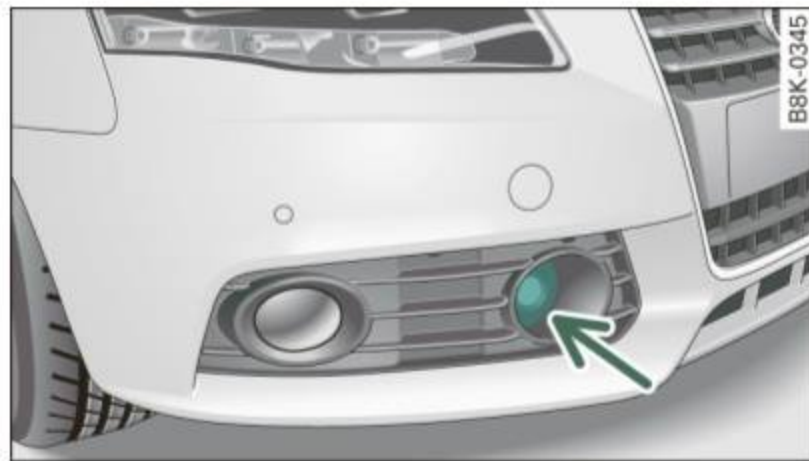

Fig. 121 Front bumper: Position of radar sensor
- The radar sensor cover is heated. In winter conditions, you should still check before driving to make sure it is free of ice and snow. If necessary, clean the area near the radar sensor carefully ⇒ page 121, fig. 121.
- To ensure that the radar sensor is not blocked, foreign objects (e.g. stickers, add-on parts) must not cover the area near the radar sensor ⇒ page 121, fig. 121. The area near the radar sensor must not be painted, either.